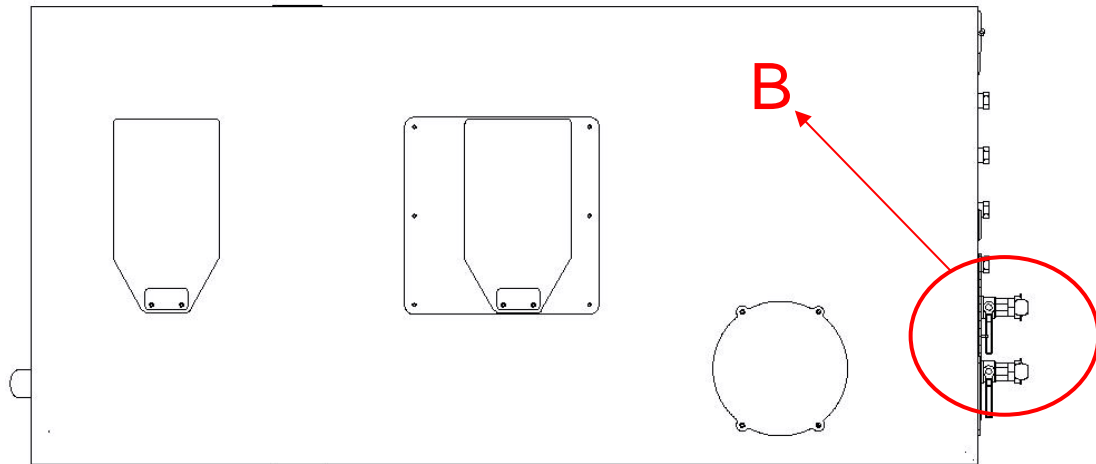

Figure 10.2-2 Location of the service valves (top view)
- 1) Completely close the taps (Letter B - Figure 10.2-2).
- 2) Press the red stop button (C) the compressor will act to depressurize the machine until the pressure of the gauge reaches a value of 3.5 bar before stopping.